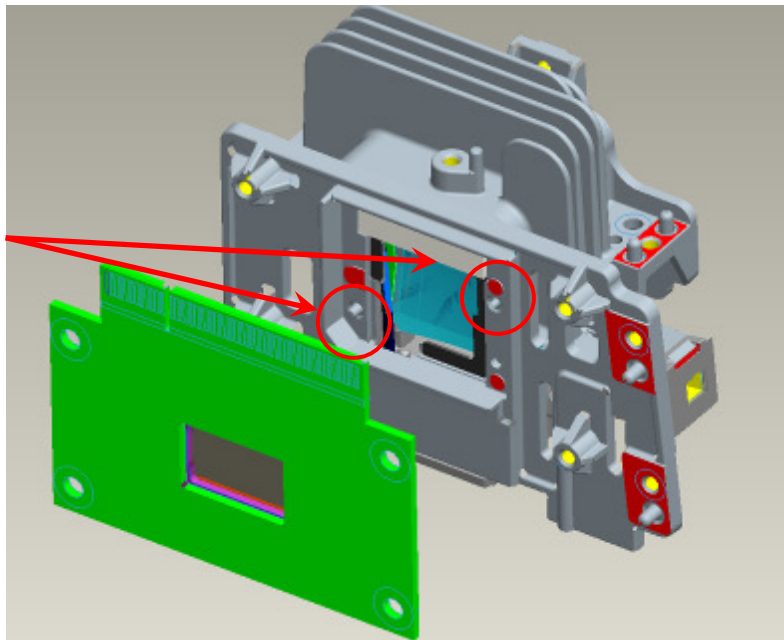
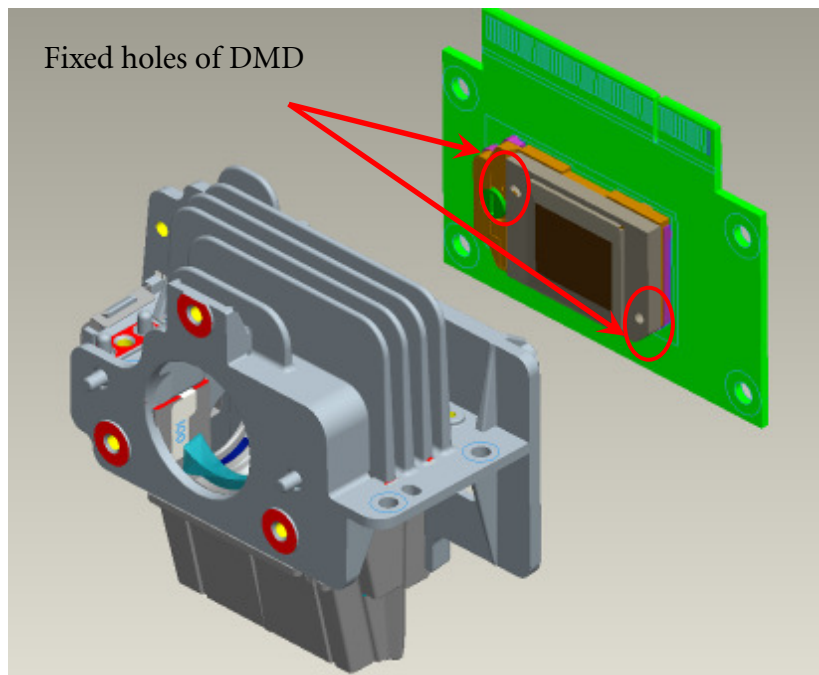

Fig.5-2
Fig.5-3
5.3 Assemble Chip B/D Module to "HSG DMD" (Fig. 5-2 , Fig. 5-3).